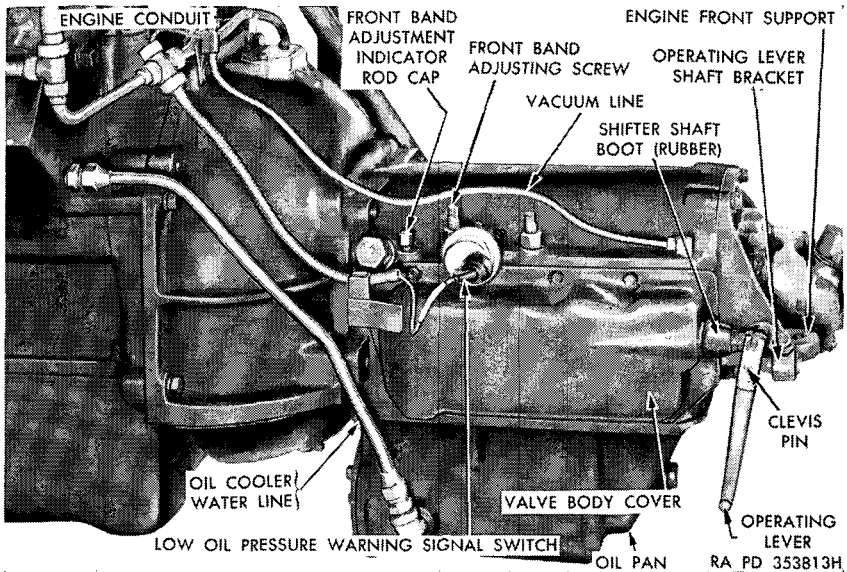
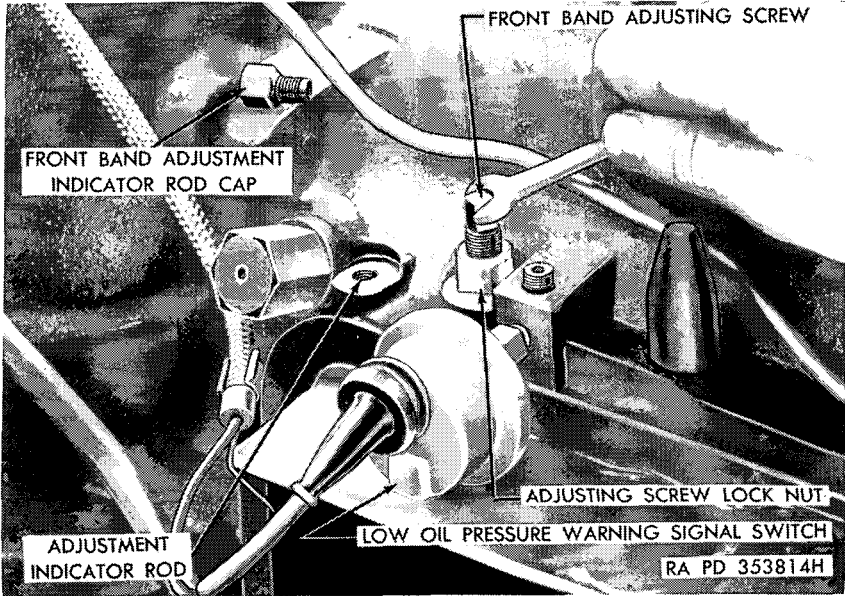

Figure 105. Hydramatic transmission.
Figure 107. Adjusting transmission front band.
a. **DESCRIPTION.** The hydramatic transmission (fig. 105) consists of a fluid coupling and an automatic transmission having four speeds forward. No reverse gearing is incorporated in the transmission, as
c. **CHECK OIL PUMP PRESSURE.** Remove the low oil pressure warning signal switch (fig. 107) and install the transmission oil pressure gage—41-G-446. Run engine until the fluid in transmission is at normal operating temperature. With the manual control rod in the middle detent position ("DRIVE" position), the oil pressure, as indicated on the pressure gage, should not be less than 85 pounds at 1,000 rpm or over. If pressure is below 85 pounds, refer to ordnance maintenance personnel.
- (1) *General.* The transmission front band is provided with an adjustment indicator rod (fig. 107) and can be adjusted in the vehicle. The rear band is provided with an automatic band adjuster and does not incorporate an indicator rod. If tests indicate that the rear band requires adjusting, notify ordnance maintenance personnel.
- (2) *Band adjustment procedure.* Remove 18 mounting screws and remove hull rear floor cover under engine and transmis-
Working through the engine compartment floor opening, remove transmission front band indicator rod cap (fig. 105). Run engine for a few minutes at idling speed; then move transmission selector lever to "DRIVE" position and set hand throttle so that engine is running at approximately 1,000 rpm. Hold a straightedge or scale across front band indicating rod boss, and check to see if indicator rod end is flush with rod boss on transmission case. Band is correctly adjusted when indicator rod end is flush with rod boss on transmission case (fig. 107). If band adjustment is incorrect, move lever back to "NEUTRAL," loosen band adjusting screw lock nut, turn front band adjusting screw to estimated correct adjustment, move lever again to "DRIVE," and check. Repeat until indicator rod end is flush with rod boss. Idle engine. Lock band adjusting screw and check adjustment. Install indicator rod cap, being sure seal is in place.
- (1) *Remove engine.* Remove engine and transmission assembly (par. 97).
- (2) *Remove lower flywheel housing.* Remove six screws that hold lower flywheel housing to upper housing. Remove housing and discard gasket.
- (3) *Remove starter.* Disconnect solenoid cable at terminal on solenoid relay. Remove two mounting bolts holding starter to flywheel housing and remove motor.
- (4) *Remove lines and electrical cables.* Disconnect right and left oil cooler lines at transmission oil pan fittings (fig. 105), loosen upper connections at crankcase and water pump inlet line, and move lines out of the way. Loosen hose clamp on hose connecting transmission and engine oil filler tubes at transmission filler side. Remove screw that holds transmission filler tube lower mounting to transmission case. Remove nut holding filler tube upper mounting bracket to rear manifold clamp stud and remove tube. Disconnect vacuum line at fitting on intake manifold and at elbow on transmission case (fig. 105). Remove flywheel housing mounting screw holding vacuum line clips and remove line. Disconnect low oil pressure warning signal switch cable at switch on transmission and pull conduit out of clip on transmission side cover.
Remove the two cap screws which hold the lever shaft bracket to the transmission and remove the bracket, by pulling it straight out, to clear the two locating dowel pins. Pull transmission low oil pressure signal unit conduit out of retaining clip on side cover. Disconnect cable on signal unit and remove signal unit. Pull rubber boot off end of manual control shifter shaft and back shaft bushing nut out of cover. Remove 11 screws which hold side cover to transmission case (fig. 105) move cover out of engine end to clear valve body; then pull toward front of vehicle to clear manual control shifter shaft end and remove cover.